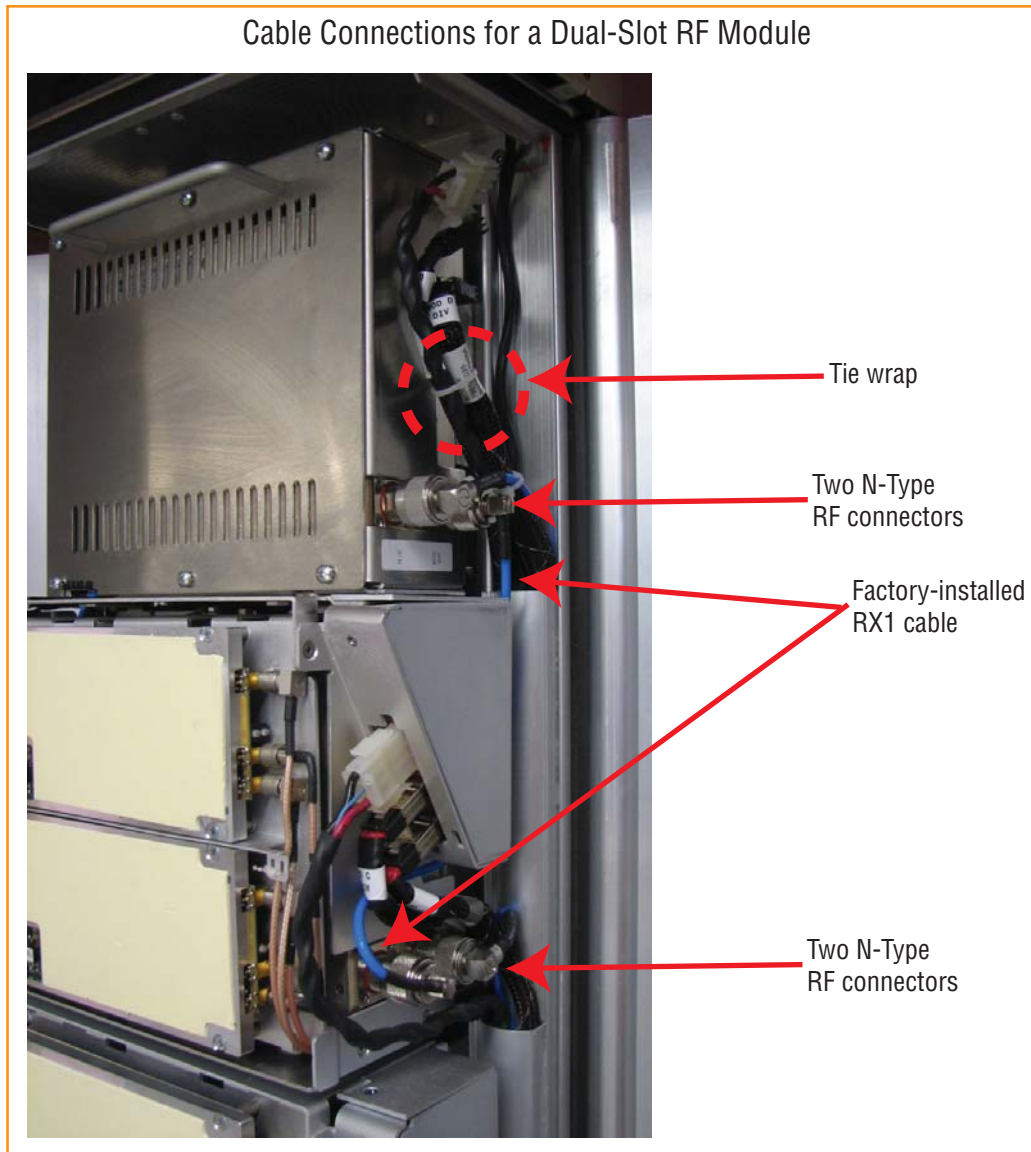

Figure 23. Cable Connections for Dual-Band Dual-Slot RF Modules
- Dual-Band Dual-Slot RF Module: Figure 23 on Page 40